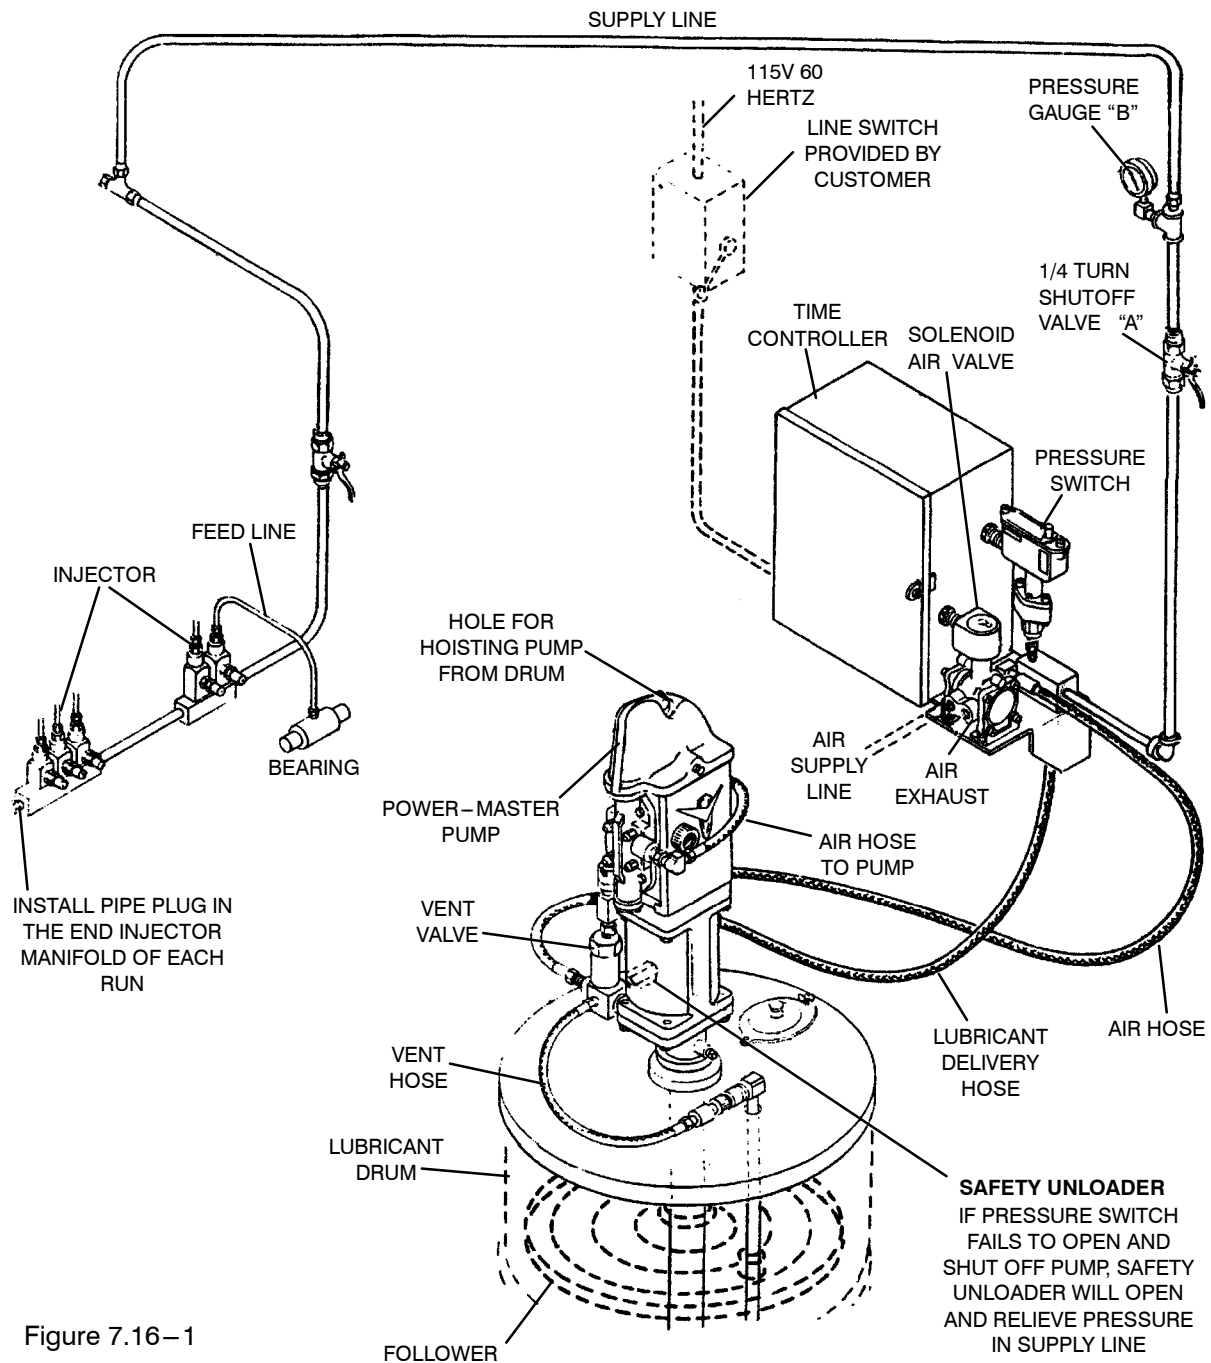

Figure 7.16-1
The pump is operated by the time controller (see figure 7.16-1). The timer closes the electric circuit to the solenoid air valve. The solenoid air valve opens and permits air to pass through the air hose, operating the pump and closing the vent valve.
Refer to Figure 7.16-1 for additional information.
1. Open shut-off valve “A” which should be installed in the supply line adjacent to the pressure gauge and pump as illustrated in Figure 7.16-1. Start pump as above. Allow the pump to operate until the supply line pressure builds up to about 2500 PSIG (for high pressure units) as indicated on the pressure gauge “B ” or 850 PSIG (for low pressure units).